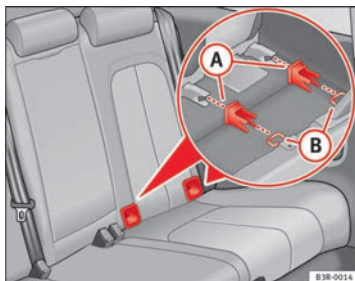

Fig. 32 Position of the ISOFIX anchors on the side rear seat
- Fit the plastic guides on the vehicle's ISOFIX anchorages between the backrest and the seat ⇒ Fig. 32.